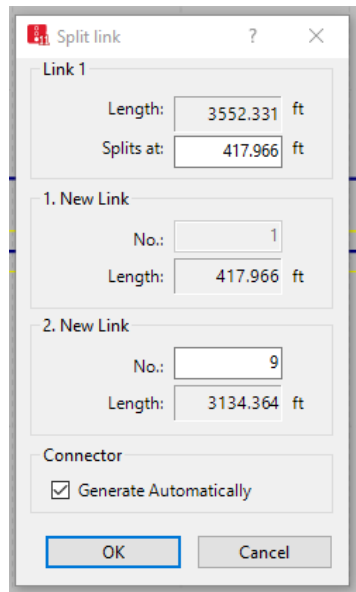

Figure 24: Split Link pop-up window
- step ii. The *Split link* pop-up window should be visible, Figure 24. Select *OK*. Vissim will split the *link* and place a short *connector* at that location. (The *Generate Automatically* check box under *Connector* in the *Split Link* window will be selected by default).